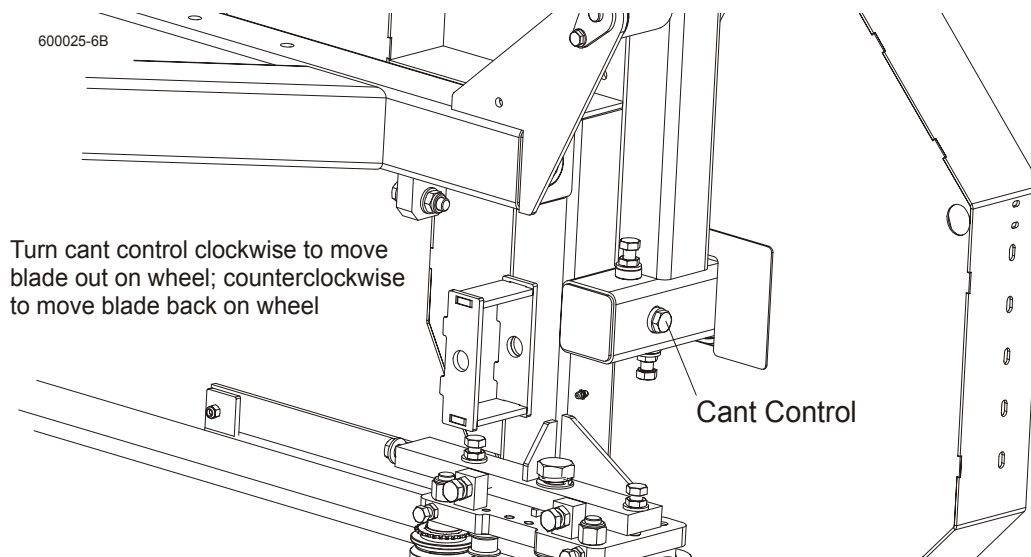

**FIG. 5-19**
**See Figure 5-19.** The horizontal tilt of the blade wheel should be adjusted so that the gullet of a 1-1/4" blade is 1/8" (3 mm) out from the front edge of the wheel ( $\pm 1/16$  [1.5 mm]). The gullet of a 1-1/2" blade should be 3/16" (4.5 mm) out from the front edge of the wheel ( $\pm 1/16$  [1.5 mm]). Do not let the teeth ride on the wheels.